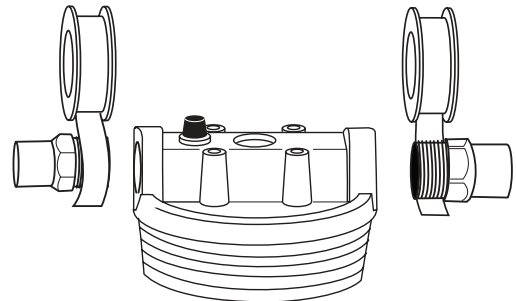

Figure 1
3. Wrap Teflon® tape (2 1/2 wraps) around the 3/4" male x 3/4" street adapter in a clockwise direction (see Figure 1) and screw firmly to filter head. Do not use pipe sealant (dope), as solvents in some types of pipe dope may cause damage to plastic fittings. Do not overtighten, overtightening can cause damage to filter head.